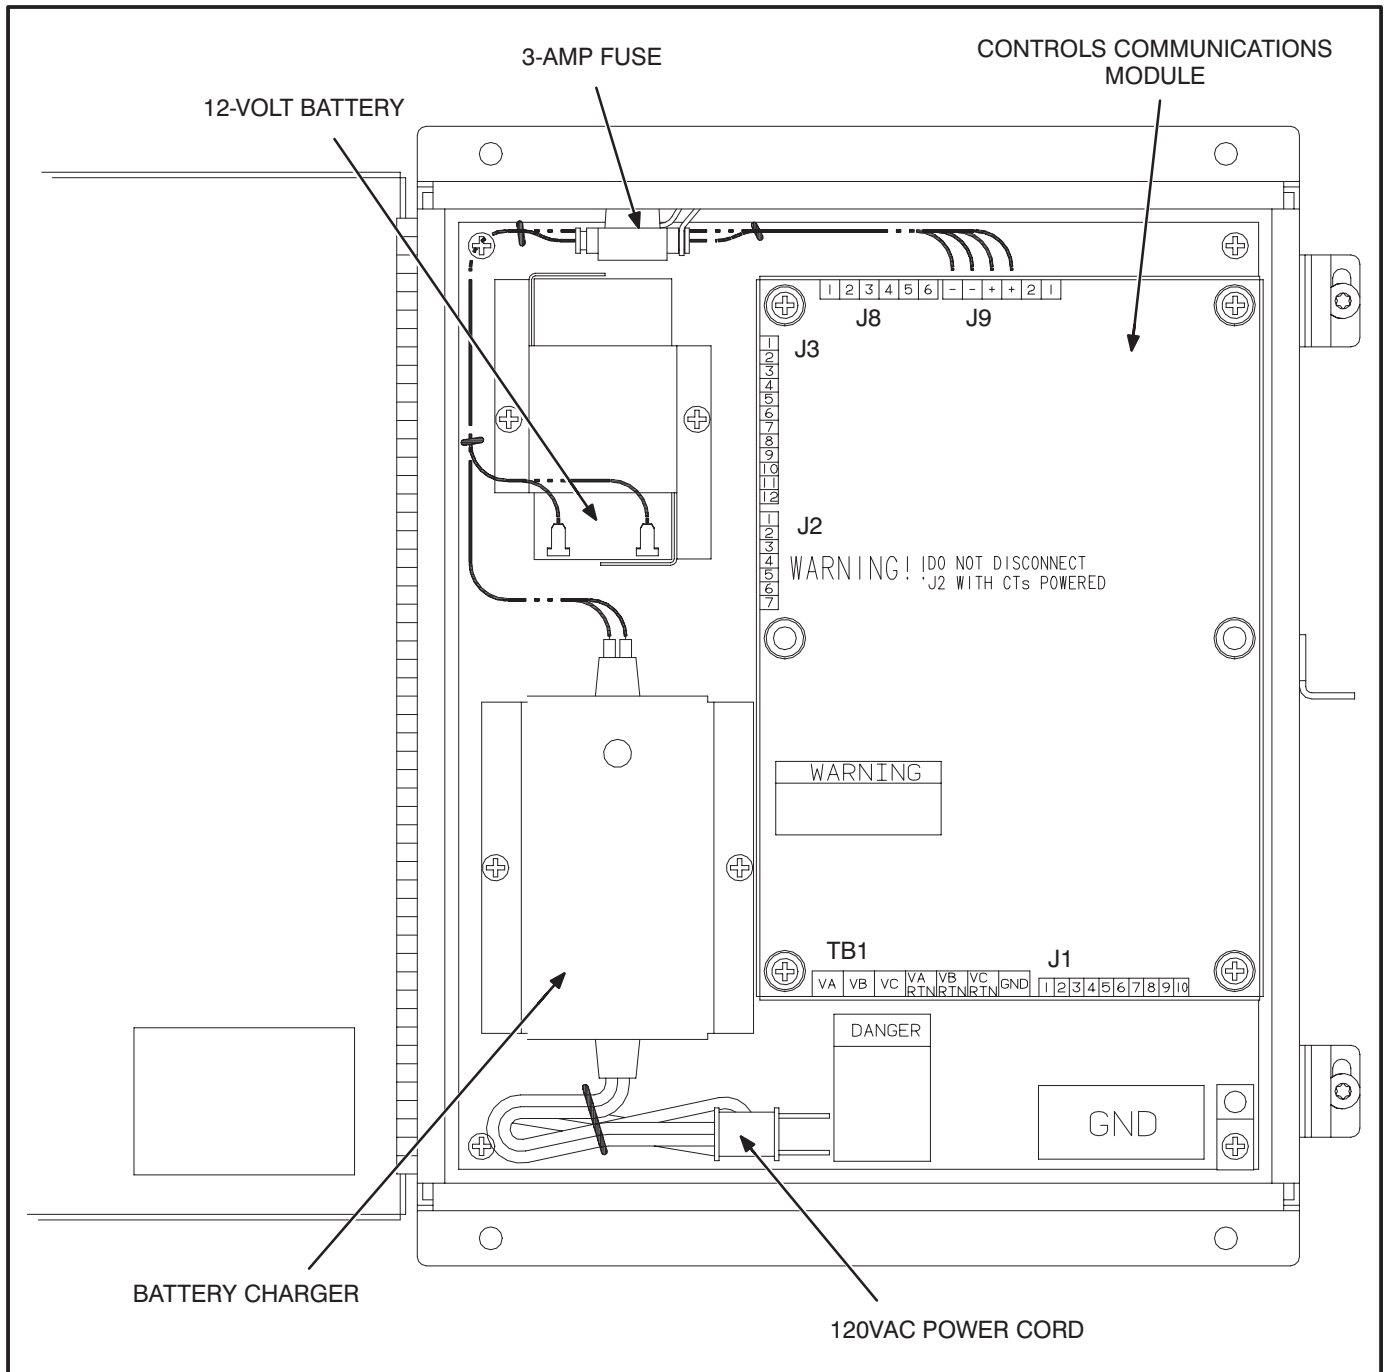

FIGURE 11-2. CONTROLS COMMUNICATION MODULE FOR ATS APPLICATIONS
1. Install the enclosed 3-amp fuse in the location as shown in Figure 11-2. An arc may occur when the fuse is installed, this is normal.